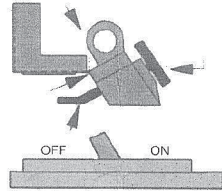

Figure 2
2. Place the lockout component over the circuit breaker switch tongue as shown (figure 2).